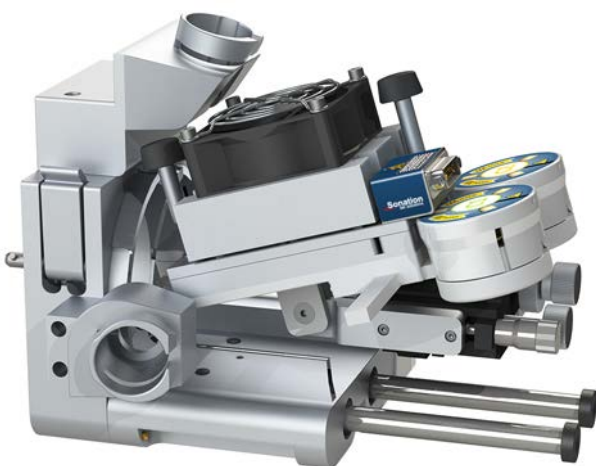

Fig. 13: Attaching the oven to the source
Place the mounting bar of the oven onto the XYZ-manipulator and fix it with the provided screw and nut as shown on Fig. 13. If the XYZ-manipulator won't stay in place, this is due to the weight of the oven. The friction of the manipulator can be regulated with adjusting screws. So just increase the friction until the oven stays in position.
- Remove the supplied plug from the CC HV regulator input (Fig.13).